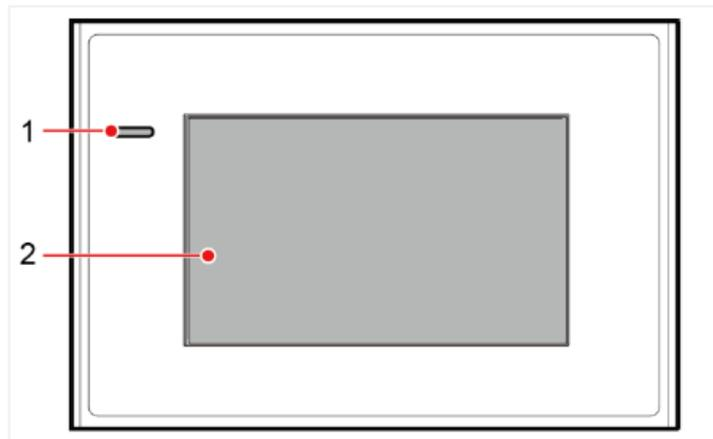

Figure 2-1 Indicators and buzzer status
- The indicator on the panel displays operating status of the smart cooling product. Figure 2-1 shows the position of the indicator. Table 2-1 describes the mapping between indicators, buzzers, and alarms. If alarms of different severities (critical, major, minor, or warning) are raised simultaneously, the indicator status corresponds to the alarm with the highest severity level and the buzzer status corresponds to the unacknowledged alarm with the highest severity level.